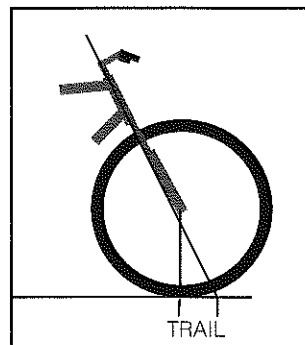

Fig. 3
**Trail** (Fig. 3) is the measurement on the ground of the distance from the steering axis to the contact patch of the front tire, measured by a vertical line through the front axle. It is the effect of fork rake combined with headtube angle. If by changing the rake, a 90 degree headtube and a 60 degree headtube both have the same trail, the bikes will feel identical in a straight line as long as the front/center is the same.